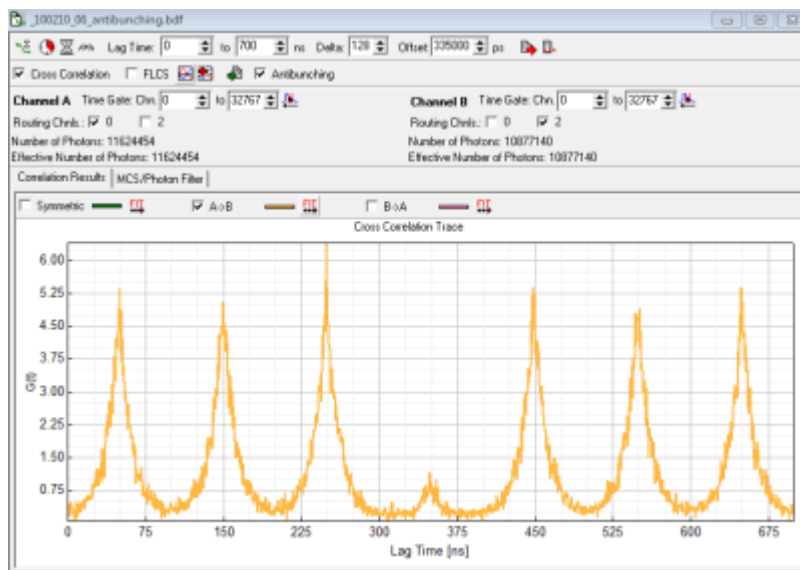

Figure 1: Correlation of Antibunching Measurement. Sample Diamond_NV_centers. Laser rep. rate 10 MHz for details
Figure 2: Correlation of Antibunching Measurement. Sample Diamond NV centers. Laser repetition rate 40 MHz. Note the peak near the expected dip at lag-time=0 due to SPAD afterglow. Compared with figure 1 the expected dip has not been shifted to the center of the x-axis and the emission bandpasses have not been placed directly in front of the detectors but in the emission filter wheel in front of the tube lens.
- depending on preference set laser repetition rate in order to allow full fluorescence to fully decay or highest possible rate or cw-excitation. The advantage of the highest possible repetition rate (or even cw) is better resolvability of the dip, disadvantage is that fluorescence does not decay completely during the pulses. (Compare figure 1 (10MHz) rep. rate and figure 2 (40 MHz) rep rate).
- However to move the expected “dip” to the center of the x-axis we here use the half of the x-axis range minus the difference in cable length (700ns/2 - 15 ns = 335000 ps). (see figure 1)
The symmetric correlation, which is shown automatically will only show a small “dip” as it is the average of AxB **AND** BxA in the case of figure 1 AxB will have its dip at 350 ns and BxA will have its dip at -350 ns. Therefore only one of both correlation (here AxB) should be displayed.